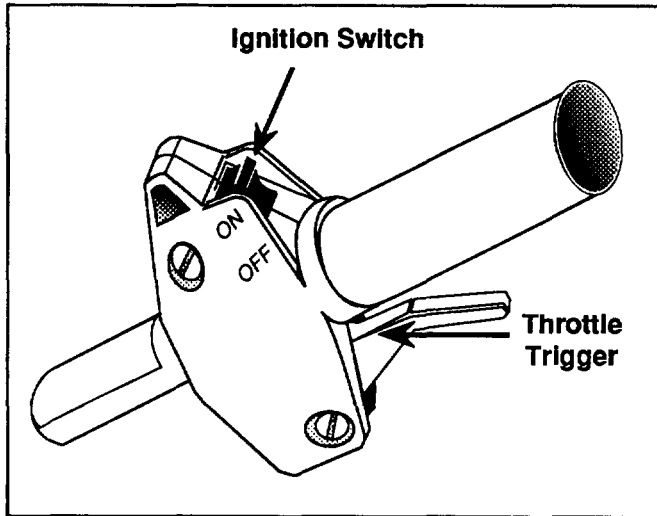

Fig. 5
2. **MOVE THE IGNITION SWITCH "ON"!** (Fig. 5).
6. **SQUEEZE THE THROTTLE TRIGGER** (Fig. 5) **TO FULL THROTTLE**. Hold the trigger against the hand grip.
11. **TO STOP THE ENGINE**, move the **IGNITION SWITCH** to the **"OFF" position** (Fig. 5).